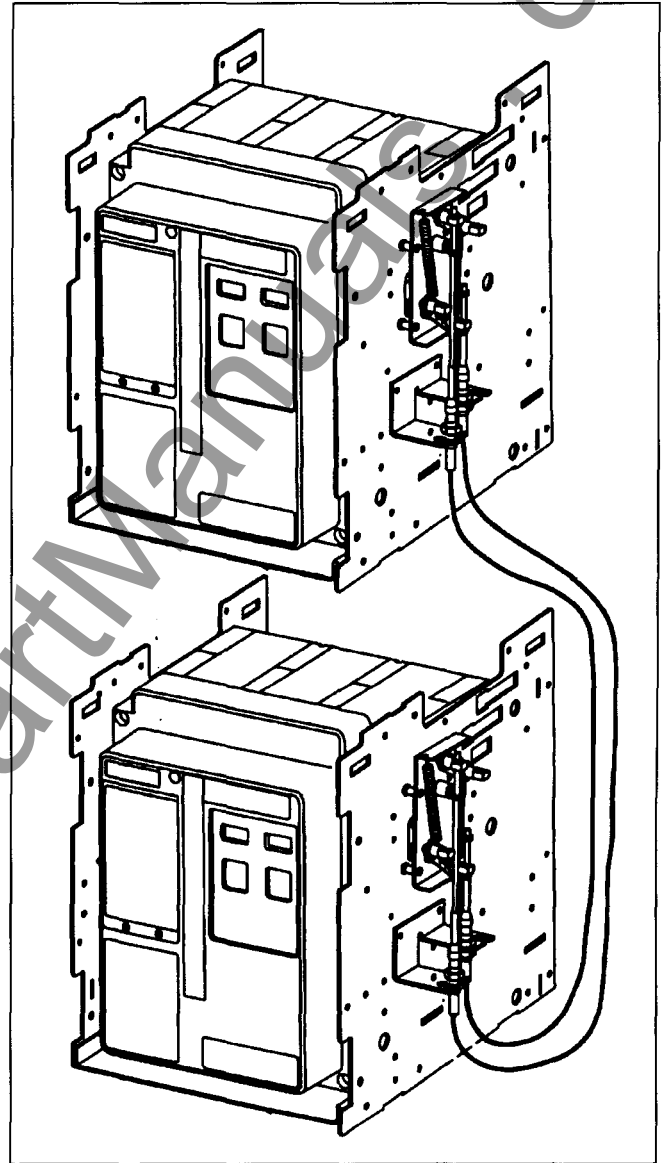

Figure 3-53 Cassette-Mounted 2-Way Cable Interlock
**Mechanical Interlock** - A family of mechanical interlocks are available to interlock the closing of two or three Magnum circuit breakers. The mechanical interlock holds one or more circuit breakers tripped (prevents closure) when others are closed. A lever assembly is mounted on each breaker which interfaces with the pole shaft and the tripper bar. The lever assemblies are interconnected with either cables or rods, depending upon the relative orientation of the breakers. Rods can be used only when the circuit breakers to be interlocked are vertically stacked. Cables can be used for any orientation of the breakers. Mechanical interlocks are available for both fixed and drawout circuit breakers and in both 2-way and 3-way versions. An illustration of a 2-way cable interlock mounted on two drawout circuit breakers is shown in Figure 3-53.